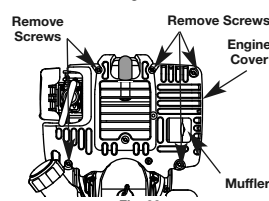

Fig. 33
1. Remove the five (5) screws on back of the engine cover with a Flat-head or T-20 Torx screwdriver (Fig. 33).
5. Remove the engine cover (Fig. 33 & 34).